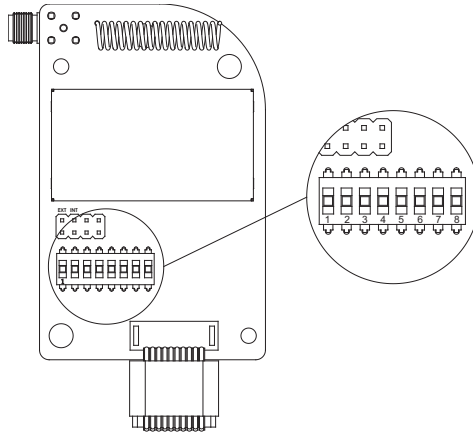
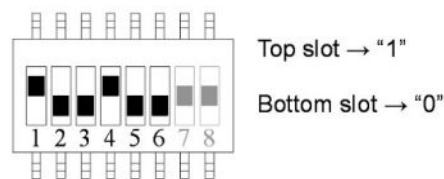

Fig. 11
Fig. 12
Set the receiver channel by adjusting the channel dipswitch located on the receiver module (**see Fig. 11**). Only the first six (6) positions are used for channel programming (**see Fig. 12**). The system channels table in **Section 5 on page 37** illustrates which dipswitch setting corresponds to which channel. Once the receiver channel is altered, be sure to change the transmitter channel as well. The channel on both the transmitter and the receiver must be identical in order for the system to work. To change the transmitter channel, **see Section 4.1.1 on page 20**.